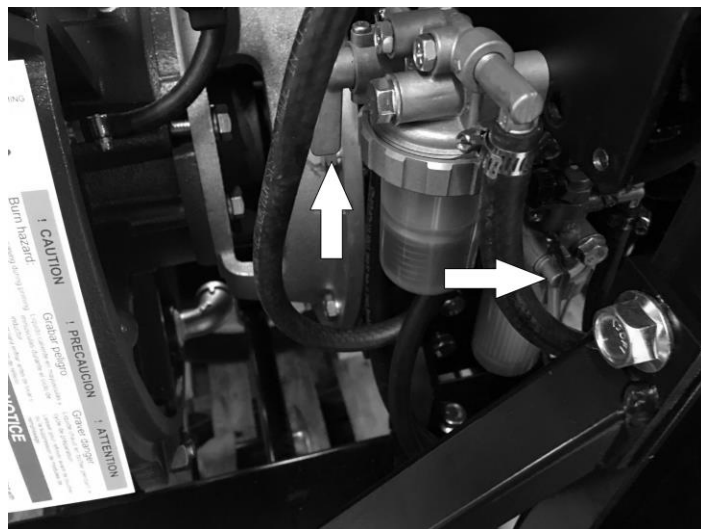

Figure 1 – Fuel Valves
4. Open all valves in the fuel system, fuel tank, fuel filter, & water separator. Valves may be closed for shipping. Operating starter with valves closed may result in an air locked fuel system. Consult engine manufacturer for remedy to air locked fuel system. SEE FIGURE 1